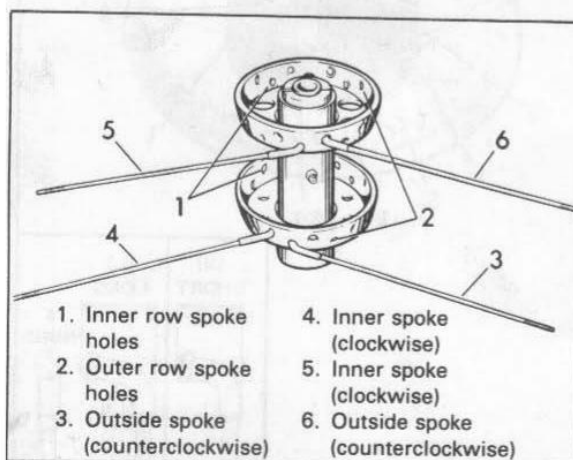
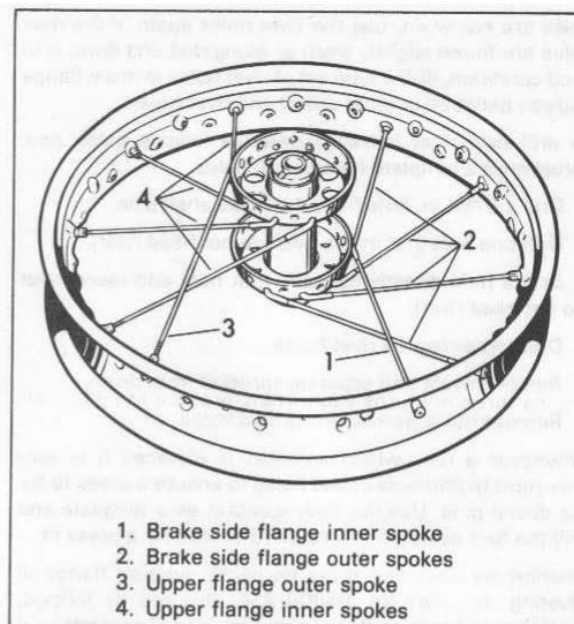

Figure 2-17. Inserting Spokes in Rear Wheel Hub
Figure 2-18. Lacing Rear Wheel
REAR WHEEL (Figures 2-17 and 2-18)
Rear wheel rim is identified by Part No. stamped in rim-well as follows: 18 in. steel 43005-70, 18 in. aluminum 43008-70. Spoke holes in hub flanges are in two rows around each flange – ten inner row holes (1) and ten outer row holes (2, Figure 2-17) in each flange.
1. Place hub on bench with brake drum end of hub down as shown in Figure 2-17.
2. Insert spokes (3) in ten outer spoke holes of brake side flange and swing loose end of spokes counterclockwise, as far as hub will allow.
5. Insert spokes (4) in ten inner spoke holes of brake side flange and swing loose end of spokes clockwise as far as hub will allow.
6. See Figure 2-18. Select any inner spoke (1), cross it over four outer spokes (2), and insert spokes in nearest lower rim holes. Start nipples.
7. Insert spokes (5, Figure 2-17) in ten inner spoke holes of opposite flange (upper flange as positioned on workbench) and swing loose end of spokes clockwise as far as hub will allow. Then, insert inner spokes in nearest upper rim holes that angle in same direction as spokes and start nipples.
8. Insert spokes (6, Figure 2-17) in remaining ten outer spoke holes of upper flange and swing end of spokes counterclockwise as far as hub will allow.
9. See Figure 2-18. Select any outer spoke (3), cross it over four inner spokes (4), and insert spokes in nearest upper rim holes. Start nipples.